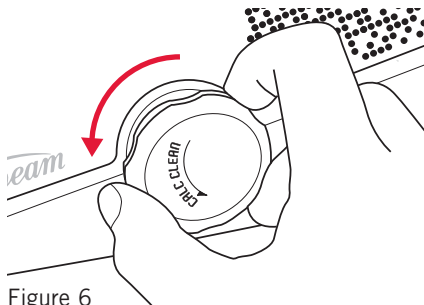

Figure 6
3. Slowly turn the calc clean release valve anti clock wise. See fig 6.